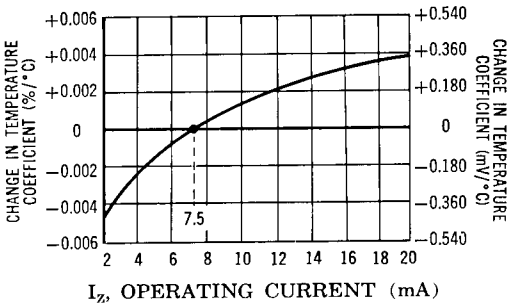

FIGURE 3 Typical change of Temperature Coefficient with Change in Operating Current.
The curve shown in Fig. 3 is typical of the diode series and greatly simplifies the estimation of the Temperature Coefficient (TC) when the diode is operated at currents other than 7.5 mA.
EXAMPLE: A diode in this series is operated at a current of 7.5 mA and has specified Temperature Coefficient (TC) limits of $\pm 0.005\%/^{\circ}\text{C}$. To obtain the typical Temperature Coefficient limits for this same diode operated at a current of 6.0 mA, the new TC limits ($\%/^{\circ}\text{C}$) can be estimated using the graph in FIGURE 3.
In conjunction with Fig. 3 this curve can be used to estimate total voltage regulation under conditions of both varying temperature and current.